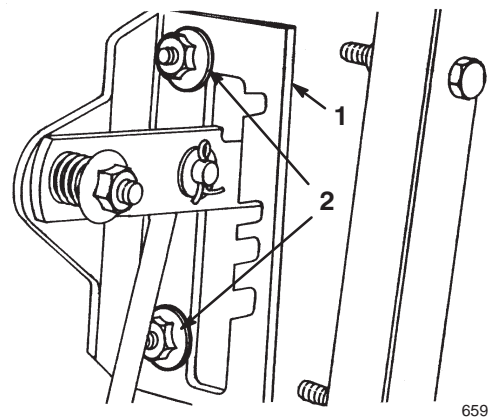

Figure 21
- Loosen the flange nuts that secure the selector plate to the control panel (Fig. 21).
Note: The drive assembly should be 1/8 inch (3 millimeters) from the roll pin; if not, slide the selector plate (Fig. 21) until the gap is 1/8 inch (3 millimeters); refer to Figure 22.